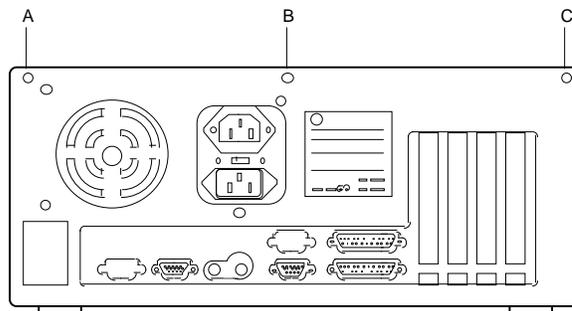

Figure A-11. Master Controller II Cover Removal
3. Loosen the three main cover screws (A,B,C) on the back panel as shown in Figure A-11.